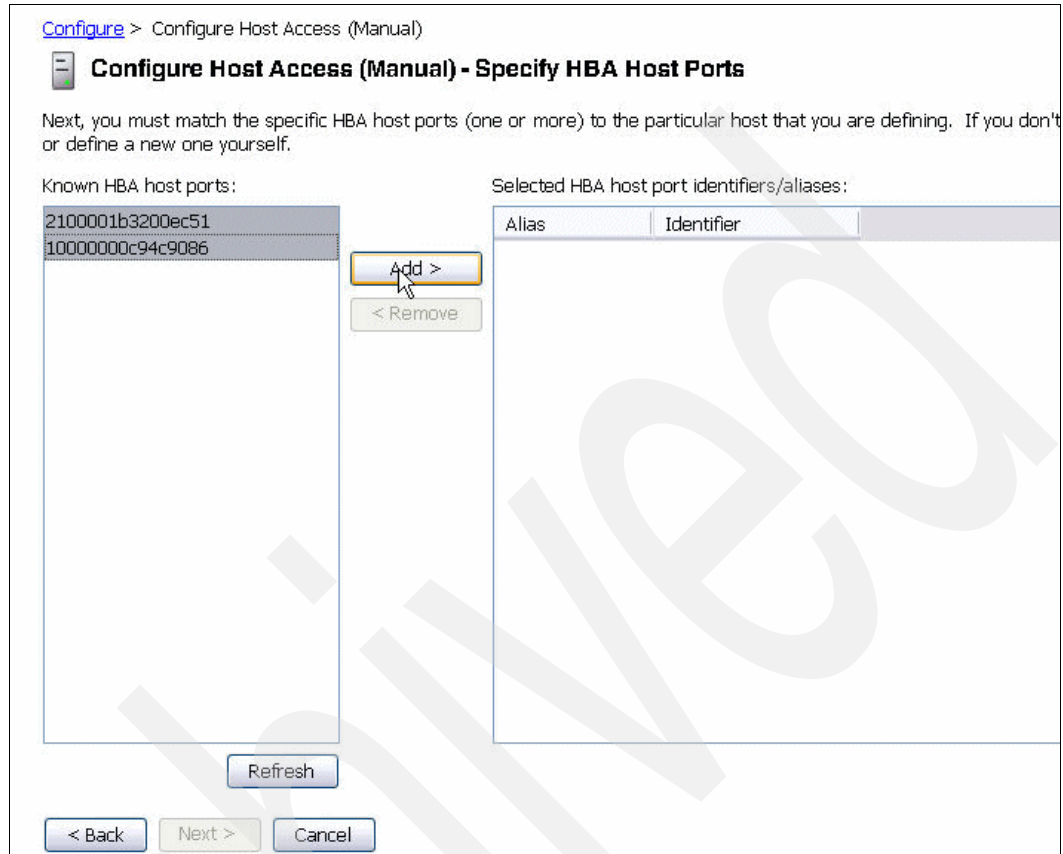

Figure 7-38 Select and add WWPns
3. In the next window we select the WWPns of two adapter ports in VIOS that connect the DS3400 and click **Add**, as can be seen in Figure 7-38.